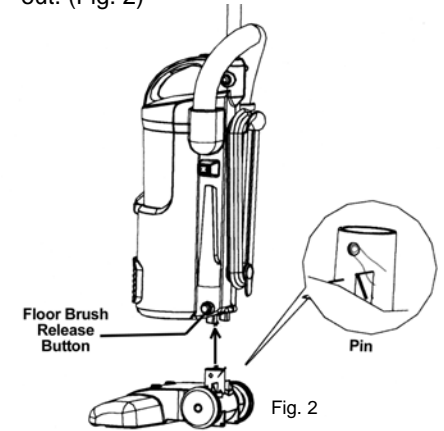

Fig. 2
- To remove the floor brush from the main unit, press on the floor brush release button and pull the floor brush out. (Fig. 2)
- Press the floor brush release button to remove the floor brush. (See Fig. 2 page 4)